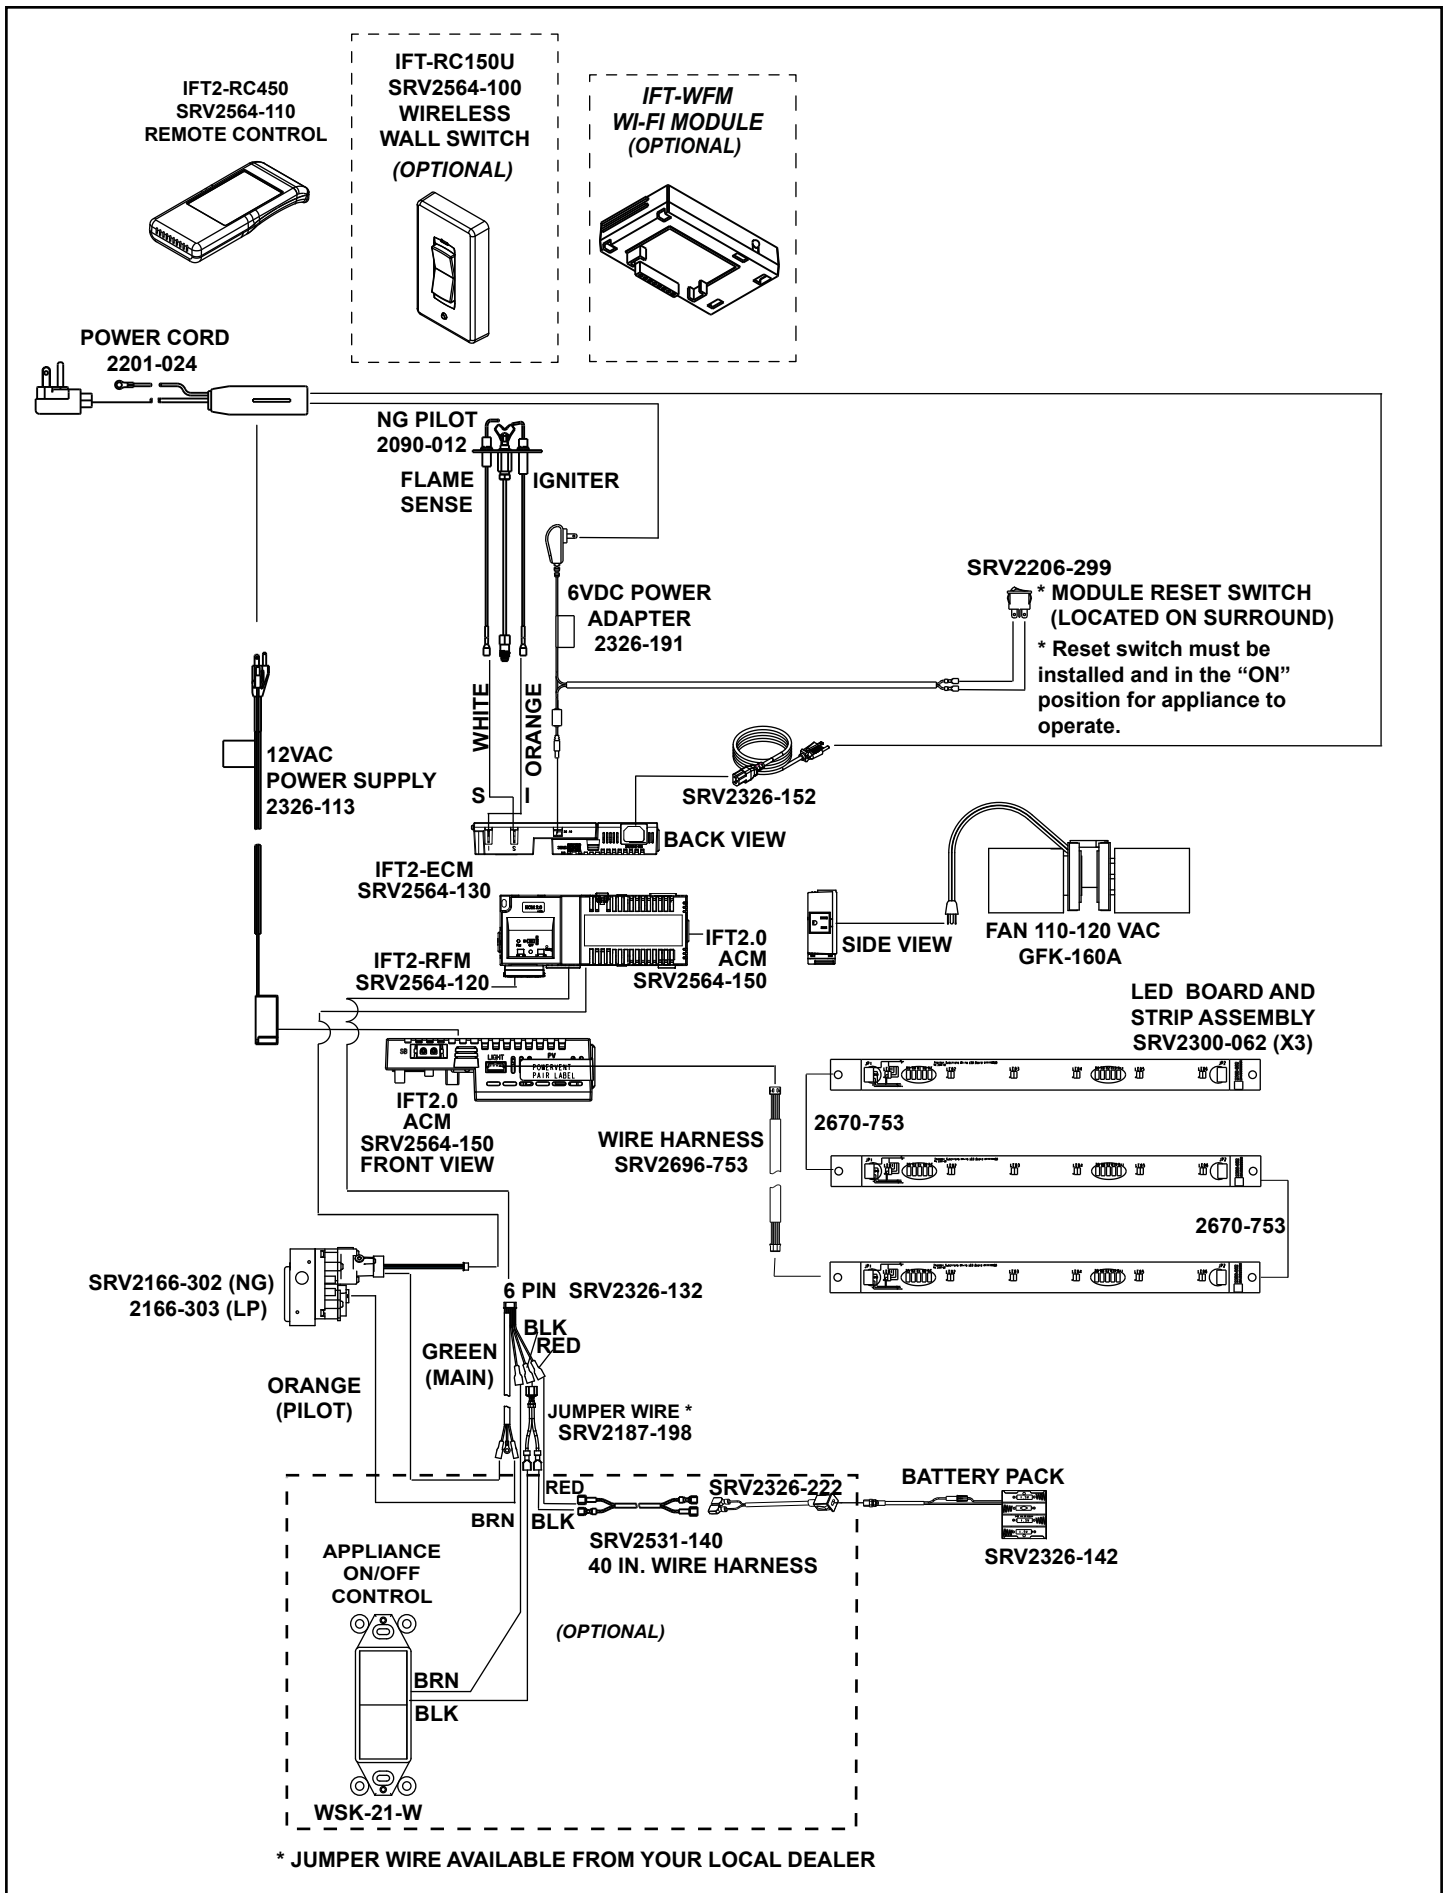

Figure 6.2 IntelliFire Touch 2.0 Wiring Diagram
- Refer to Figure 6.2 IntelliFire Touch (IFT 2.0) Wiring Diagram.
3. Service / replace fan. Figure 6.2 shows a wiring diagram.
2. Service / install fan. Figure 6.2 shows a wiring diagram.
3. Service / replace LED's. Figure 6.2 shows a wiring diagram.